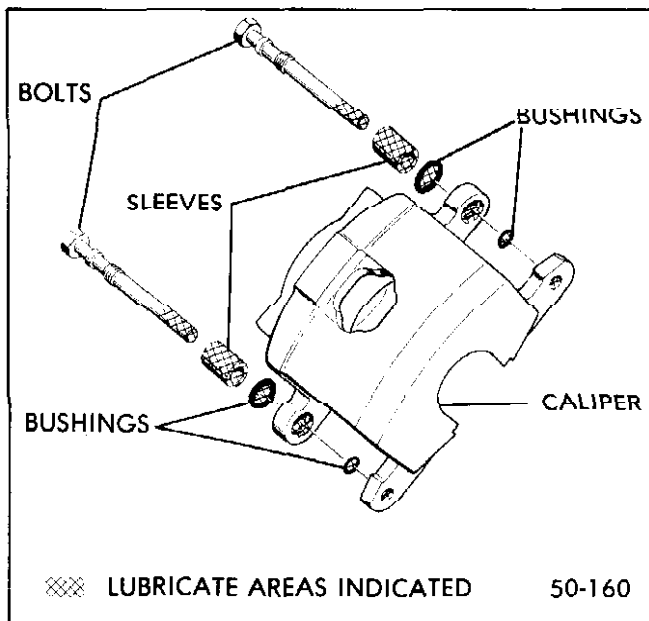

Figure 50-49--Lubrication
1. Using Buick Silicone Lube, No. 1050243, lubricate new sleeves, on all surfaces. Lubricate new rubber bushings, bushing grooves and the small ends of bushings in all four caliper ears. See Figure 50-49. Install rubber bushings in all four caliper ears.